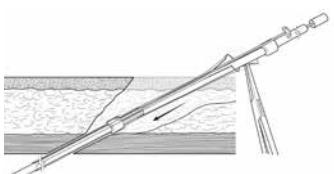

Figure 27
10. Advance Cuff Implantor Tool to edge of distal cuff (Figure 27).